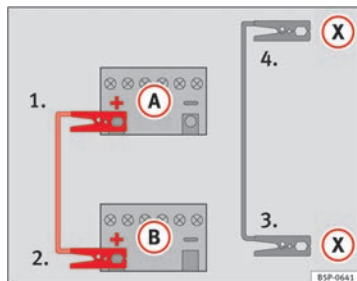

Fig. 202 Diagram of connections for vehicles with Start-Stop system
- Connect one end of the *red* jump lead to the positive \oplus terminal of the vehicle with the flat battery \textcircled{A} ⇒ Fig. 202.
- Connect one end of the *black* jump lead \textcircled{X} to a suitable ground terminal, a solid piece of metal in the engine block, or to the engine block ⇒ Fig. 202.